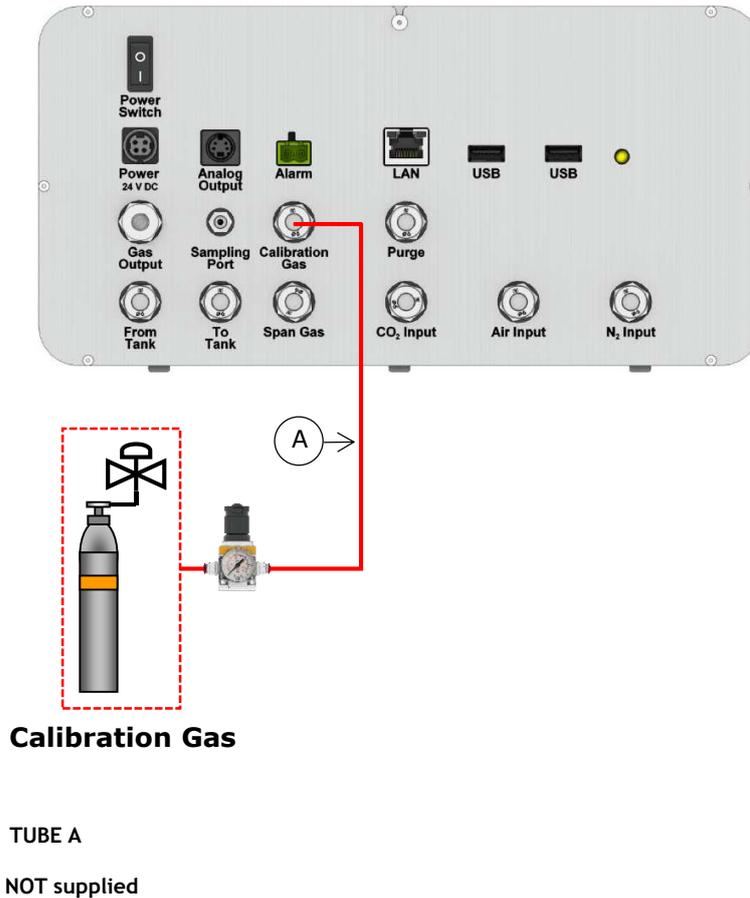

Figure 47 Calibration gas connection
2. Connect the Gas calibration tank to the *Gas Calibration* port on the rear panel of the Tri-Gas-Mixer, if you do not have connected it during the system installation. See Figure 47